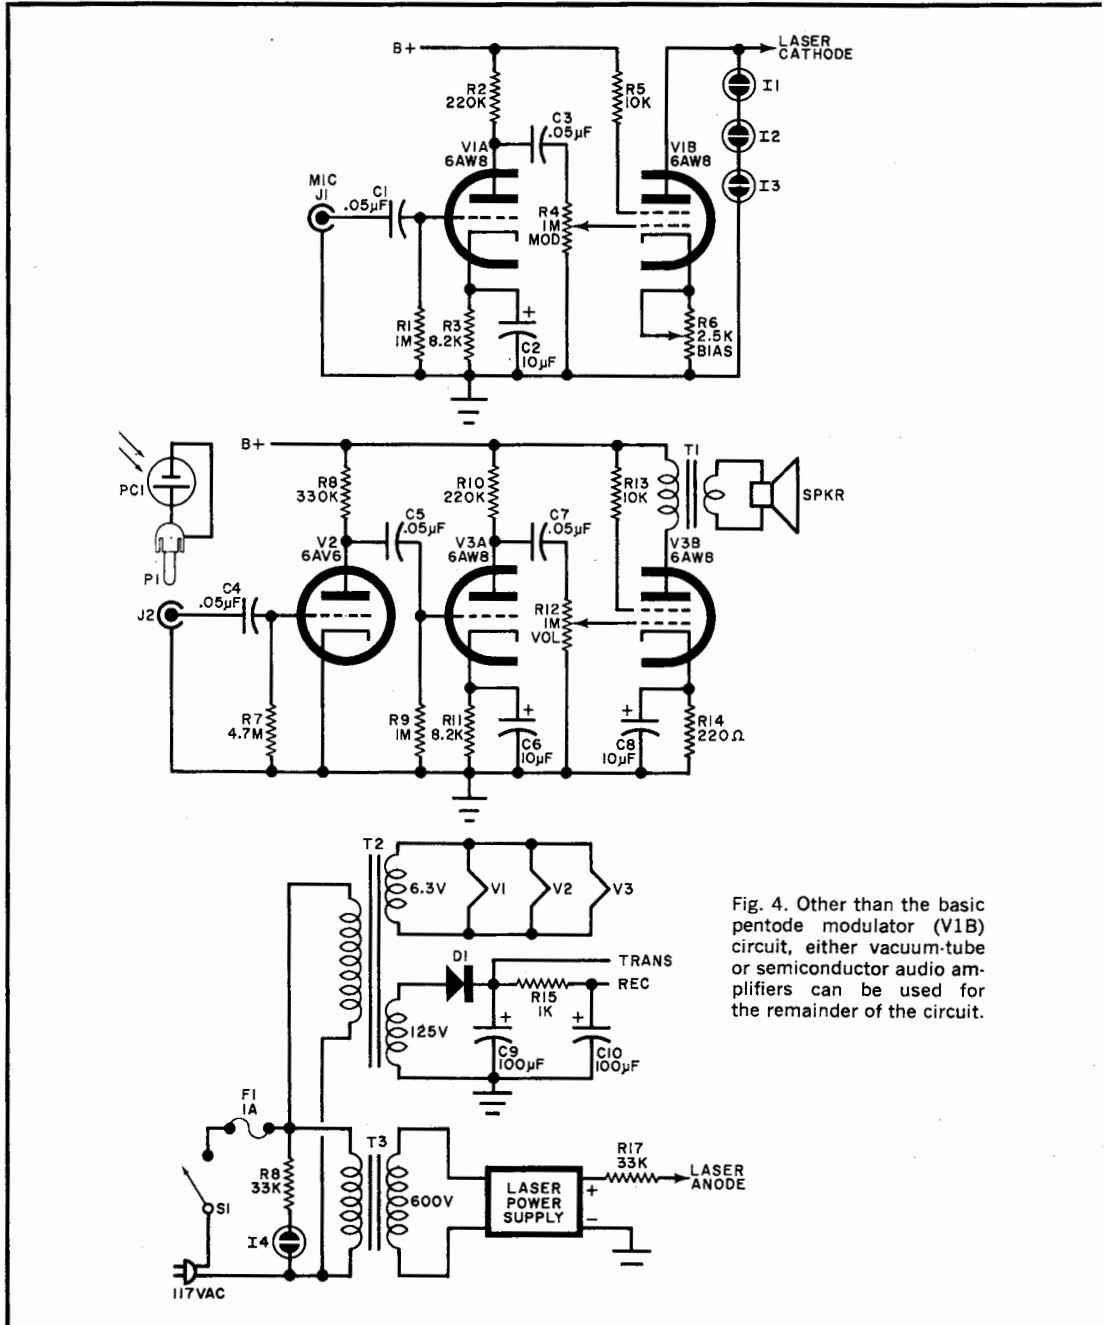

Fig. 4. Other than the basic pentode modulator (V1B) circuit, either vacuum-tube or semiconductor audio amplifiers can be used for the remainder of the circuit.
**Basic Modulator.** The circuit for converting the original laser project into a light-beam transceiver is shown in Fig. 4. A photograph of the finished project is shown in Fig. 5. A complete vacuum-tube system is used simply because a high resistance device is required and the tube that will do the job is inexpensive and readily available. In addition, the +175 and 6.3-volt sources required by the pentode can be used elsewhere in the circuit.
Once all the components are installed, wire up the circuit point-to-point (using terminal strips as required) following the circuit shown in Fig. 4. Of course, it is not necessary to use vacuum tubes for the microphone amplifier. You can use the 6AU6 pentode for the laser driver and, for the amplifier, any one of several commercially available transistor amplifiers. The author used one of the new RCA IC kits—the KC4000 microphone pre-amplifier—in one model and found that it worked fine. The solid-state receiver consisted of a KC4000 microphone preamplifier for the photocell pre-